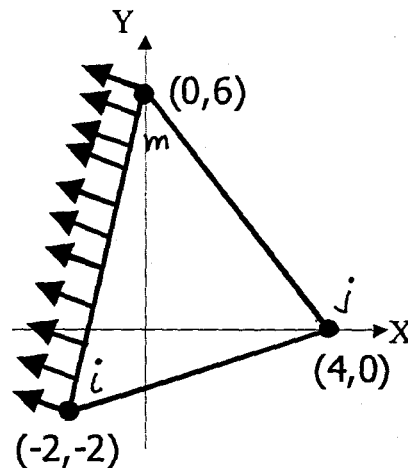

Fig. 3
- 6) Calculate the stiffness matrix and load vector of the element shown in Fig. 3. Thermal conductivity is $15 \text{ W/m}^\circ\text{C}$ and convection coefficient is $20 \text{ W/m}^2\text{-}^\circ\text{C}$. Convection occurs at the edge i - m . The free-stream temperature is 15°C and there is a uniform heat generation 100 W/m^3 . The thickness may be taken as 1 m and both the surfaces of the triangular element are insulated. Other two edges of the element are within the domain. Use appropriate form of the governing equation and boundary condition applicable to the case stated. Derivation of the weak form is to be done.